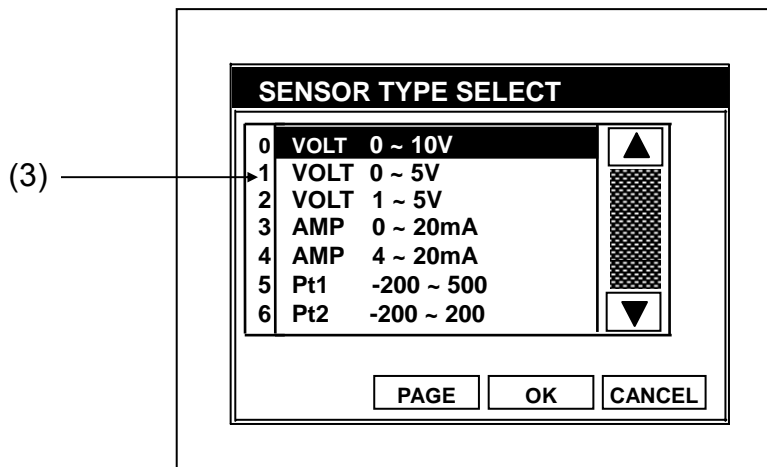

Fig. 3.3.2 SENSOR TYPE SELECTS
- If the button(4) is pushed, Figure 3.3.2 appears and you can select the sensor type in the screen.
(4) SENSOR TYPE Setup Button: Screen switching
- Switch to '**SENSOR SELECT**' screen (Fig 3.3.2).
(5) SCALE LH(Low – High)